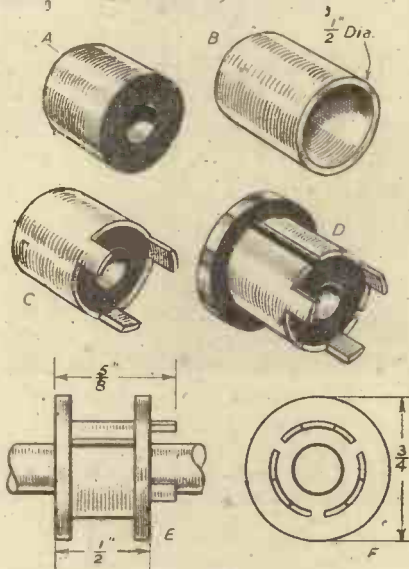

Fig. 10.—Component parts for making the commutator.
Fig. 10 shows the various stages in the construction of the commutator. This is often a difficult part for the amateur to make owing to the need for having the hole in the bush perfectly concentric with the outside. If you have no lathe you will most
likely save time by getting the bush turned up for you. It should be a tight fit on the spindle, and also in the brass tube, which is to form the segments. It is forced into the tube as at Fig. 10 (C), and the end of the tube is then filled to the shape shown so as to form three soldering tags. Three evenly spaced saw cuts are extended to the other end by means of a small file, and a second fibre ring is forced on.